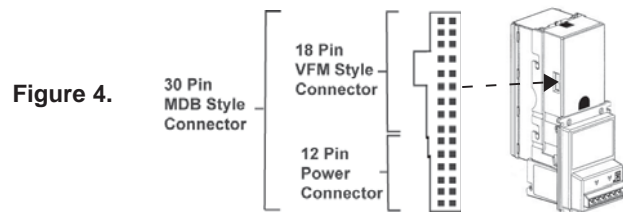

Figure 4.
Note: These harnesses fit onto the male connectors located on the left side of the Bill Acceptor (see Fig. 4) and are designed to connect to the vending machine controller's or coin changer's Bill Acceptor interface harness. For further information on either interface harnesses or mounting kits, please contact your supplier or MEI Service Center.
3. Reconnect the VN2500 to the appropriate interface harnesses. (See Figure 4.) Forcing harness(es) into Bill Acceptor will cause pins to bend or break.